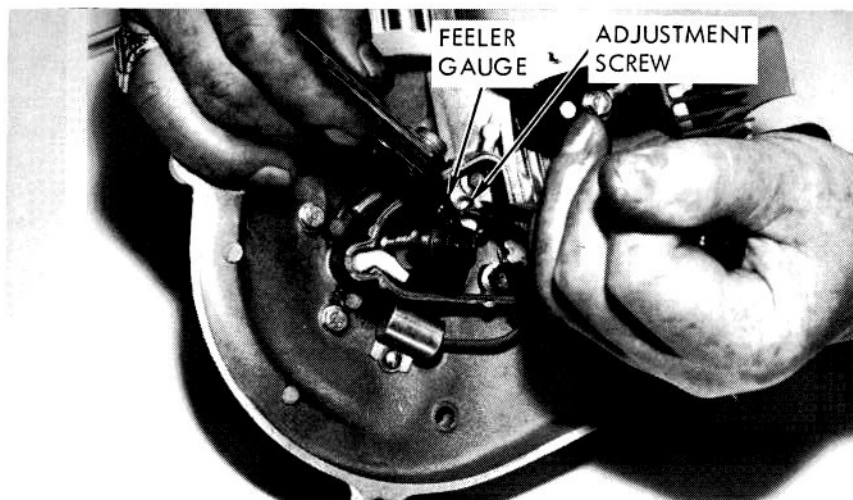

FIGURE 16
2. Loosen the screw which holds the slotted arm to the crankcase cover (Figure 16).